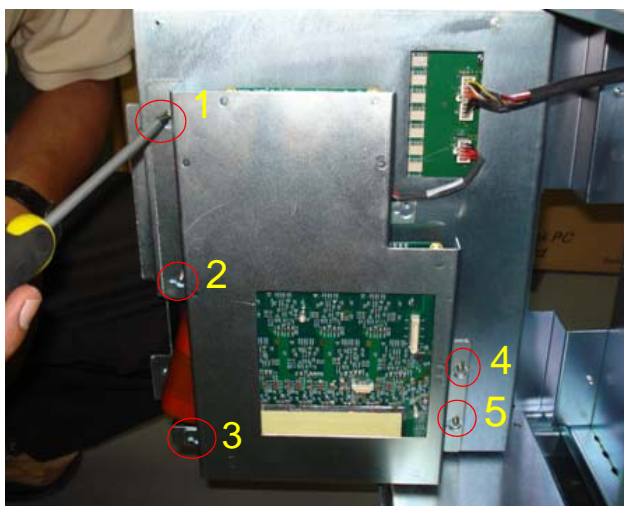

Figure 8-62 TX board Assembly
- 3) Pull the Tx board from the system.as shown below Figure 8-62 on page 8-62